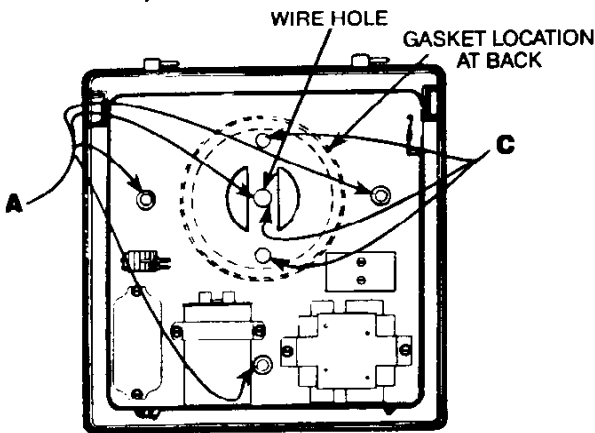

FIGURE 1.
2. Loosen four (4) screws securing reflector assembly and slide sideways off keyholes and lampholder.
3. Punch out four (4) knockouts **A** in back of die-cast base. (See Figure 1.)
4. Mark three (3) points on the wall at mounting location, using the luminaire base for a pattern.
5. Drill holes for three (3) $\frac{3}{8}$ " lag screws in wooden wall or drill and place anchors in masonry wall. (Lag screws or anchors not furnished.)
6. Peel paper backing from foam ring gasket (included in carton) and affix to rear of die-cast base inside raised ring, as indicated in Figure 1.
8. Bring field wires including ground (see label on fixture for wire type) through outlet box (provided and recessed into wall by contractor) and into luminaire through wire hole as indicated in Figure 1.